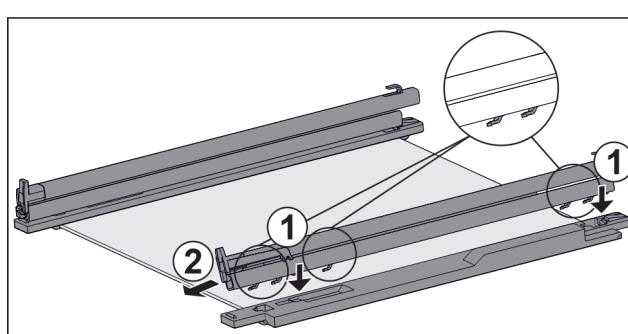

Fig. 132 Glass shelf with rails and retaining parts
- Place rail hooks onto the openings of the **left** retaining part. *Fig. 132 (1)*
- Push rail forwards. *Fig. 132 (2)*
- Place rail hooks onto the openings of the **right** retaining part. *Fig. 132 (1)*